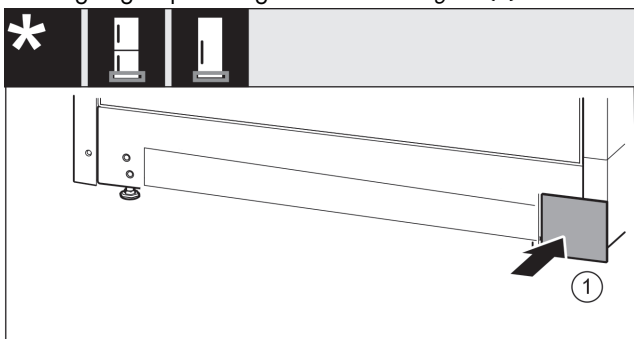

Fig. 17
- Put back the cover on the other side. Fig. 17 (1)